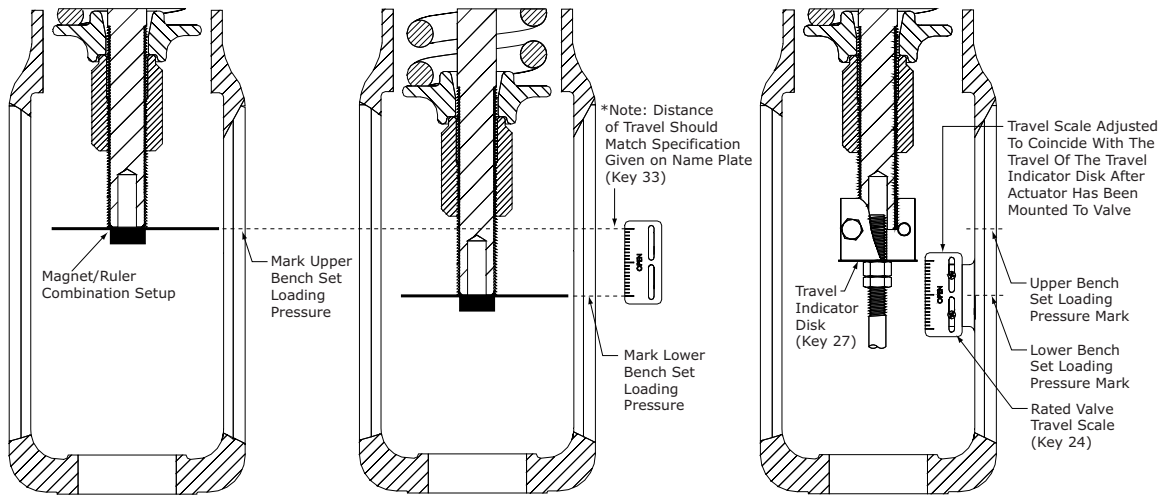

Figure 3 Bench Set Spring Adjustment Diagram
(Refer to Figure 3)
- 2 Once the upper bench set pressure has been set, use a magnet or piece of tape to attach a piece of metal or ruler to the bottom of the actuator stem (Key 3) to use as an indicator arm. Make a mark to indicate the stem position at the upper bench set pressure (See Figure 3). Make sure the travel is fully extended.
- 3 As shown in Figure 3, the valve stem should fit inside the actuator stem. Install the stem connector (Key 22). It is important to position the stem connector so that the threads properly engage with those of the stems. Connect the other half of the stem connector and orientate the stem connector as show in Figure 3. It is at this time that any accessories (such as positioner arms) that need to be connected to the stem connector should be put in place. Install the stem connector bolts and tighten.
- 4 Re-position the travel disk (Key 27) under the stem connector (Key 22), thread up the jam nuts (Keys 28 & 29) to hold the travel disk in place and tighten the jam nuts together (Refer to Figure 3). Do not over tighten the jam nuts.